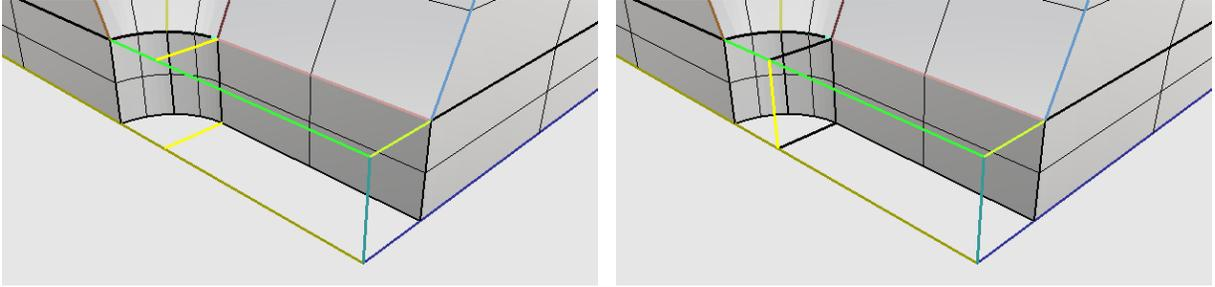

Figure 78: Building additional construction lines
- Use **Curve|Line|Single Line** to build the two highlighted horizontal line segments shown in Figure 78, left. Use **Curve|Line|Single Line** to build a vertical line segment joining the two T-junctions (Figure 78, right).